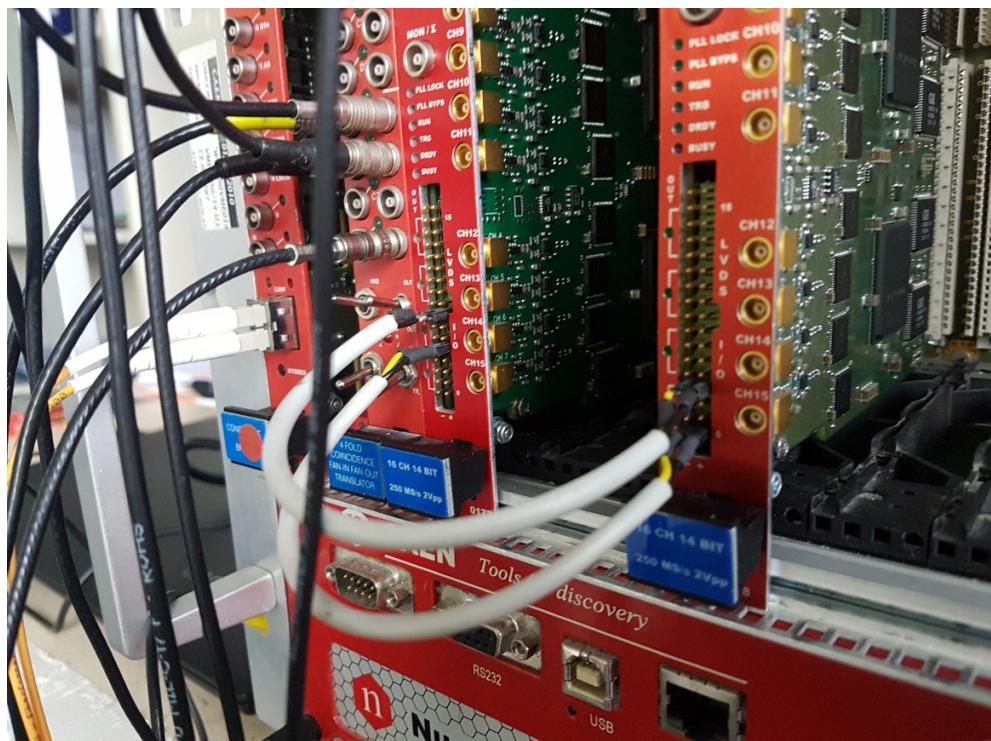
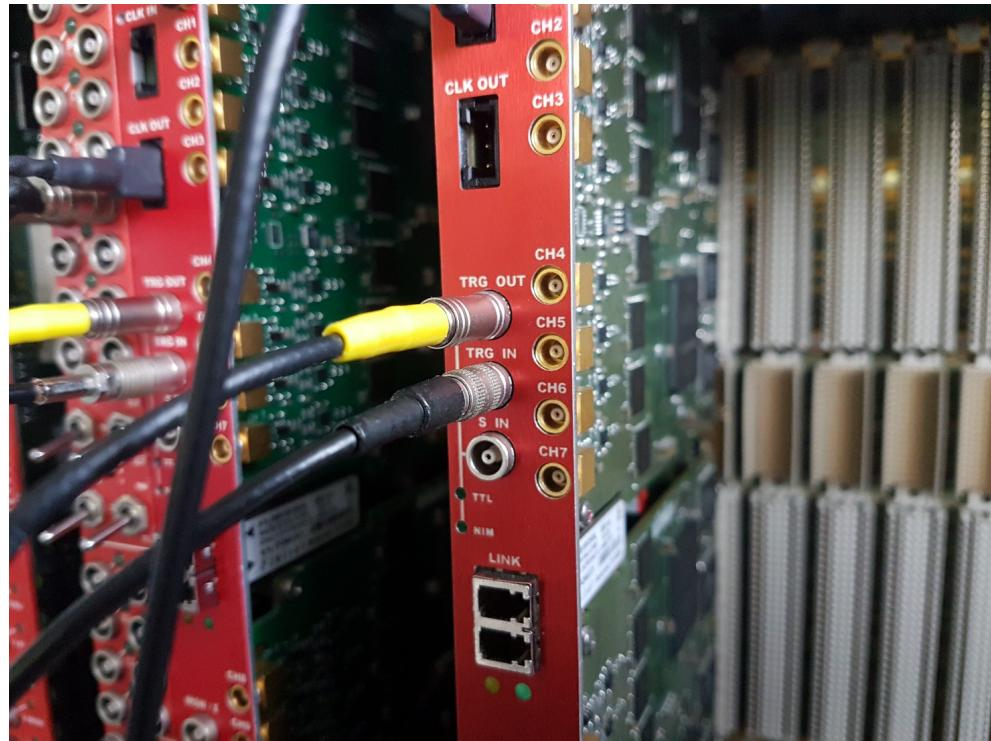

Fig. 4.2: RUN IN and BUSY daisy-chains through the LVDS connectors
Fig. 4.3: the signal from the TRG OUT connector must be used to veto the global trigger
- (b) The RUN IN signal is propagated from one board to the other in daisy-chain through the LVDS connectors in the lower part of the board front panel, as shown in Fig. 4.2. In particular, the LVDS pair 7 of each board is configured as a RUN IN output and should be connected to the LVDS pair 3 of the following board in the daisy chain (configured as a RUN IN input), see Fig. 4.2;
- (c) The BUSY signal is propagated from one board to the other in daisy-chain through the LVDS connectors in the lower part of the board front panel, as shown in Fig. 4.2. In particular, the LVDS
pair 4 of each board is configured as a BUSY output and should be connected to the LVDS pair 0 of the following board in the daisy chain (configured as a BUSY input), see Fig. 4.2. Note that each board adds his own BUSY signal to the daisy-chained BUSY, so that at the end of the daisy chain one has the OR of all the BUSY signals from the boards. This latter signal, that is fanned-out from the TRG OUT connector of the last board in the daisy chain (see Fig. 4.3) must be used to veto triggers to the boards;